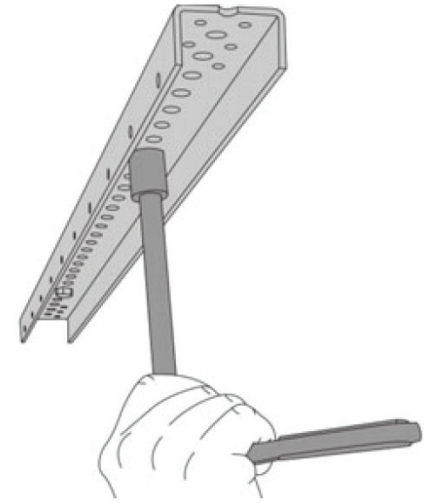

fig 2.2
9. Use a ratchet with a 1/2 inch socket to attach the Smart Track to the ceiling using one of the included lag bolts and washers. Do not completely tighten the lag bolt at this point. (fig 2.2) **NOTE:** If the lag bolt turns freely, your pilot hole is likely not hitting the ceiling joist. If this is the case, find the center of the stud and drill a new pilot hole.